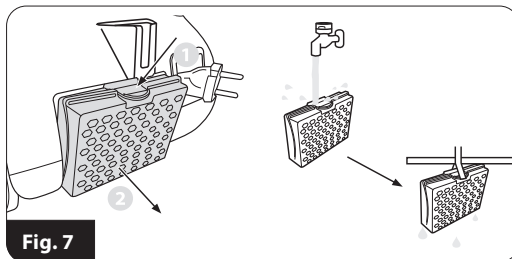

Fig. 7
The exhaust filter (12) is located in a flap on the back of the vacuum cleaner and is protected with a latch (Fig. 7). After removing the filter flap, remove the protective sponge from the filter as well. Rinse both the filter and the sponge under running water and dry thoroughly. Put the protective sponge back in place before fitting the filter. **CAUTION! The filter must be completely dry before installation. Installation of a wet filter may cause an electric shock.**